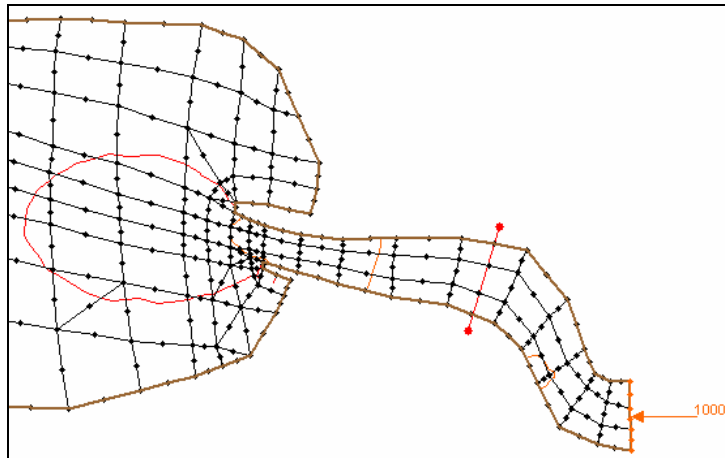

Figure 4-10 Observation arc across noyo1.spr mesh
3. Create an observation arc across the mesh as shown in Figure 4-10.